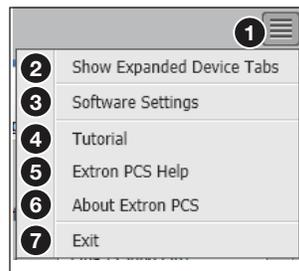
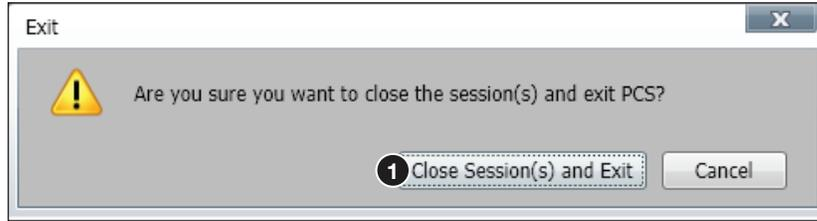

Figure 29. Software Menu
Figure 33. Exit Dialog Box
The **Software** menu (accessible at the top right corner of the PCS window, see figure 29, 1) contains options to display device connection methods in the device tabs, re-enable confirmation dialogs, view tutorial, help files, view software information, and exit PCS.
From the **Software** menu, select **Show Expanded Device Tabs** (see figure 29, 2).
1. From the **Software** menu, select **Software Settings** (see figure 29, ③, on the previous page). The **Software Settings** dialog box opens.
1. From the **Software** menu, select **Tutorial** (see figure 29, ④). The **Tutorial** dialog box opens.
1. From the **Software** menu, select **About Extron PCS** (see figure 29, ⑥). The **About Extron PCS** dialog box opens (see figure 32).
1. From the **Software** menu, select **Exit** (see figure 29, 7, on page 47). If device tabs are open, the **Exit** dialog box opens (see figure 33).